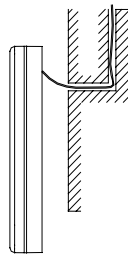

Fig.8.17 Concealed mounting of Cable
4. If the control wire between the wired controller and the indoor unit is surface-mounted, use 1# metallic pipe and make matching recess in the wall (refer to Fig. 8.16). If concealed installation is adopted, mount as Fig.8.17.